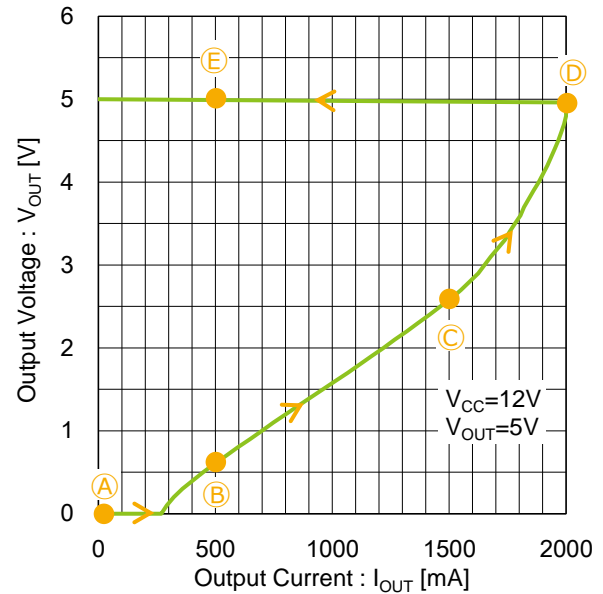
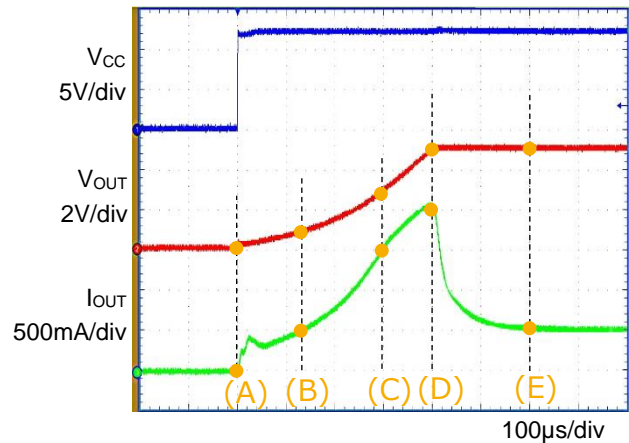
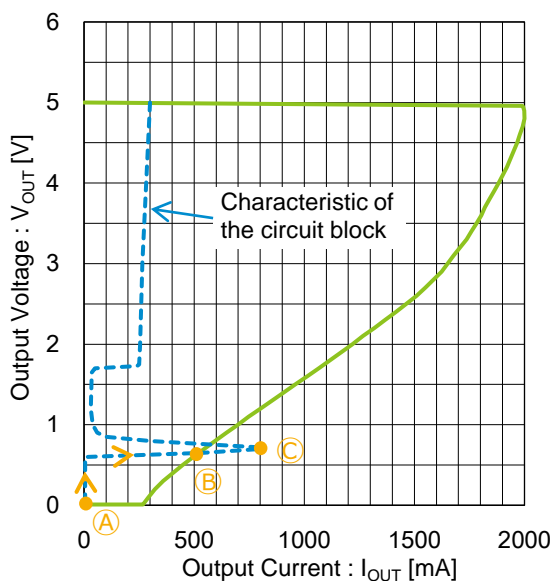
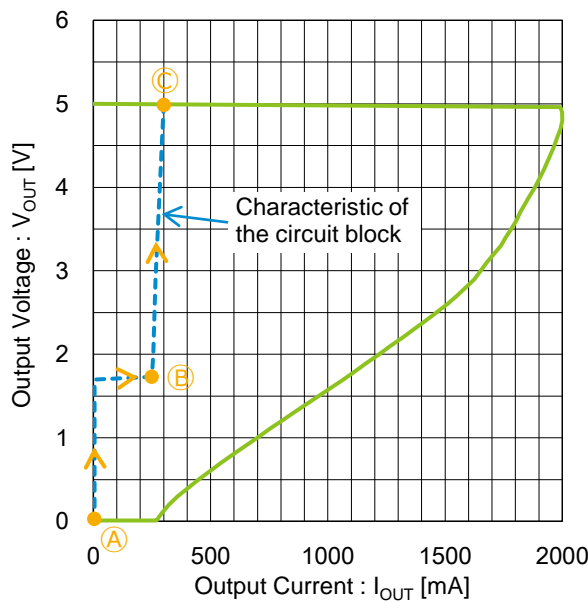

Figure 3. Example of the fold back characteristic of the over current protection circuit and the transition of the operating point when the load is resistive
Figure 4. Example of the startup waveforms $V_{CC}=12V$, $V_{OUT}=5V$, $C_{OUT}=100\mu F$, $I_{OUT}=500mA$
Figure 10. Transition of the operating point when the circuit block with the through current is started
Figure 12. Transition of the operating point when the circuit block in Figure 11 is started
First, we explain the startup sequence in the case of a normal load (resistive load). Figure 3 shows an example of the fold back (“7”) characteristic of the over current protection circuit. Figure 4 shows the startup waveforms of a circuit with the regulator output being connected to a capacitor of 100 μ F and a resistive load in which a load current of 500 mA flows at 5 V.
If this circuit is connected with a linear regulator with the over current protection circuit described in Figure 3 above, the operating point during startup transits as shown in Figure 10. The operating point begins to start up from point (A) and is supposed to move to point (C), at which the through current flows. However, the current limit is applied at point (B) by the over current protection circuit. Since a steady point is formed here, the output voltage cannot rise and a startup problem occurs.
If this circuit block is connected with a linear regulator with the over current protection circuit described in Figure 3 above, the operating point during startup transits as shown in Figure 12. The operating point starts operating from point (A) and moves to points (B) and (C), and the startup is accomplished normally. If you only look at this, it appears as if there is no problem.